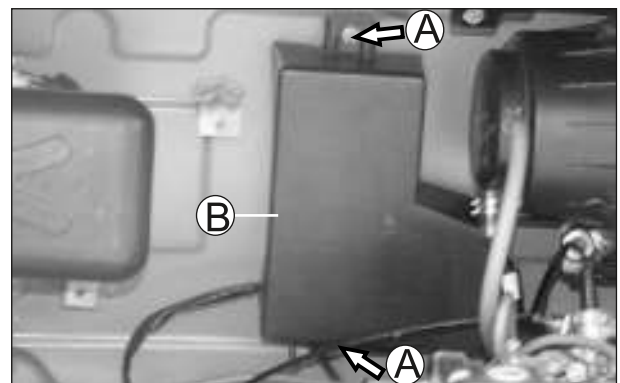

Fig. 5.99
- Loosen and remove 2 nos. hexagonal screw (M6x16) (A) from the cover TCI along with punched washer. (Fig. 5.99)
- Take out the cover TCI (B). (Fig. 5.99)